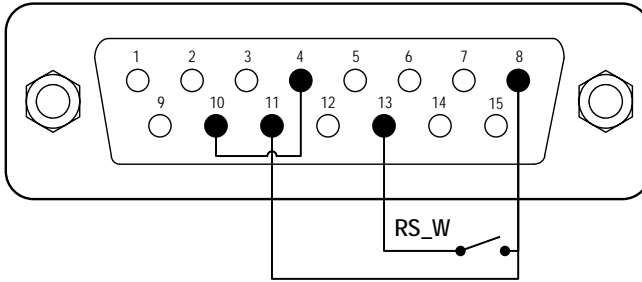
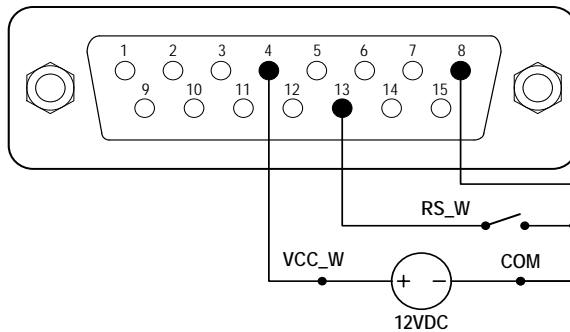

Figure 19. Logic Level Control with Internal 12V Power Source
Figure 20. Logic Level Control with External 12V Power Source
- 1) Switch the power of the pump off. Wire the DB15 connector as shown on *Figure 19* or *Figure 20*, and connect it to the DB15 port on the rear of the pump.